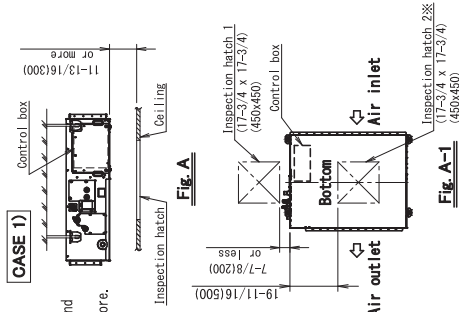

Fig. A-1
1) Inspection hatch 1 and 2 (17-3/4 x 17-3/4) (450x450) (Fig. A-1) and a space of 11-13/16(300mm) or more under the unit. (Fig. A) Note) Inspection hatch 2 is not needed when there is a space for service work under the unit.